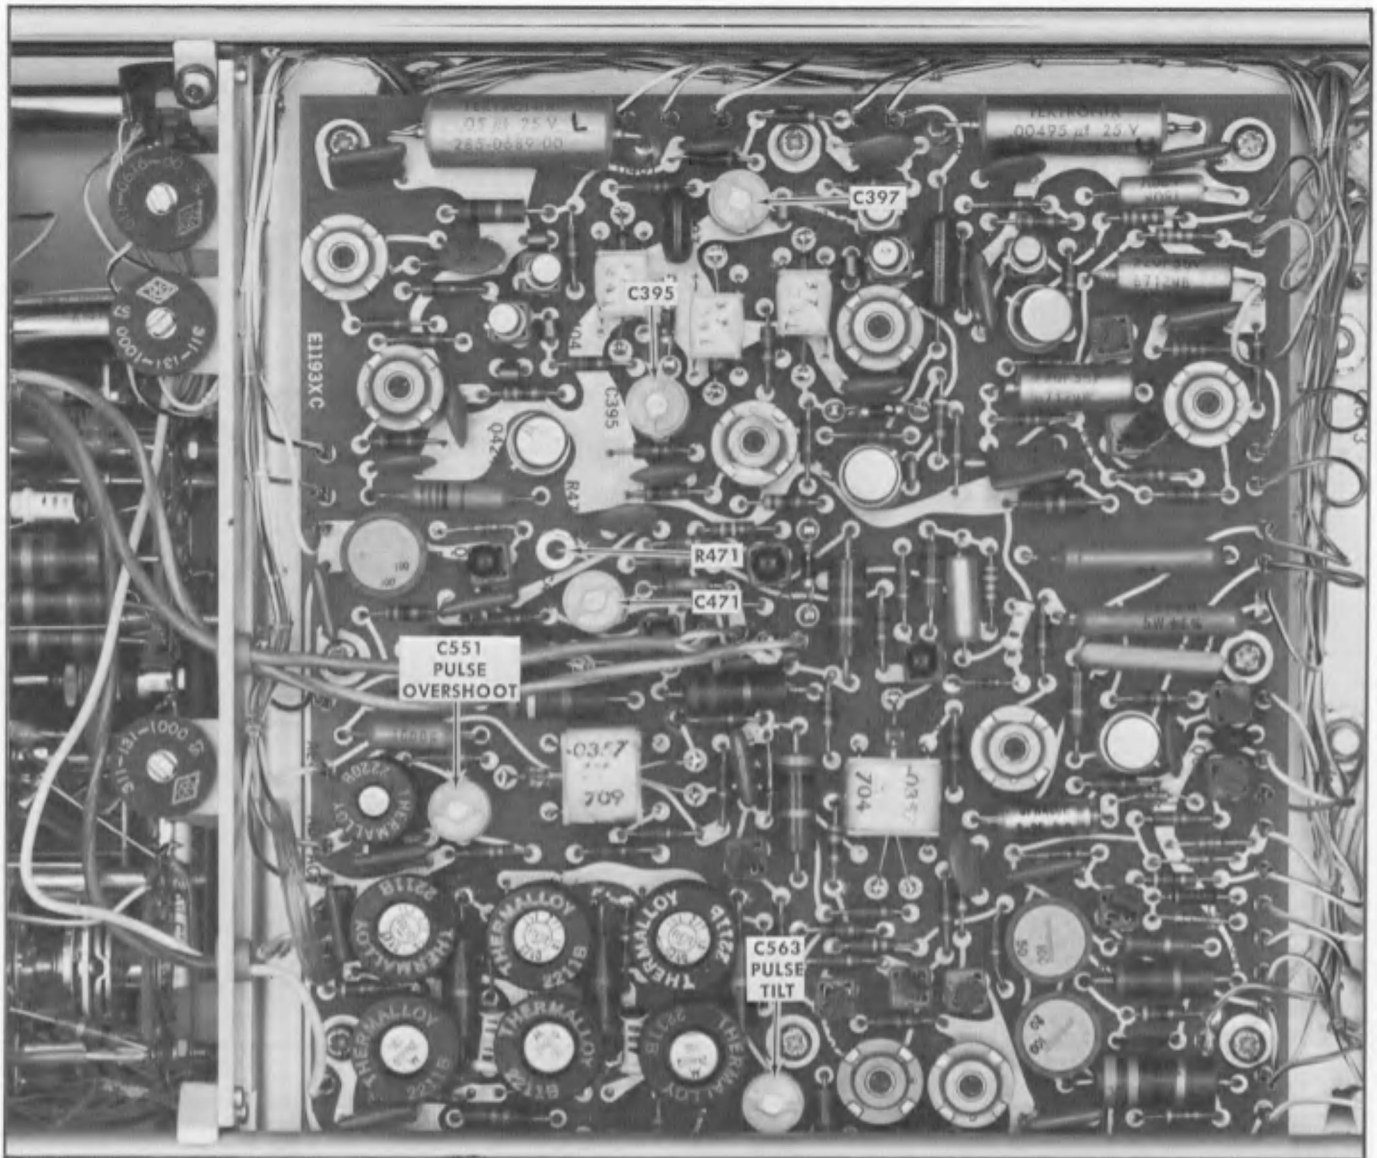

Fig. 5-16. Bottom circuit board: Location of adjustments in steps 17 through 20.
- n. ADJUST—C471 and R471 (see Fig. 5-16) for the fastest possible risetime with minimum aberrations.
n. ADJUST—R376, 10 ns T_r CAL adjustment, (see Fig. 5-13) and C395 (see Fig. 5-16) if the risetime is not correct. Remove the adjustment tool while observing the risetime.
cc. ADJUST—C397 (see Fig. 5-16) if the risetime is not correct.